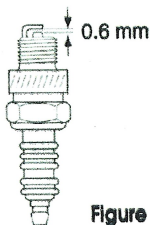

Figure 3
- 2) Remove and inspect spark plug. Replace the spark plug once a year. The spark plug should always be replaced if the electrodes fig.3 are pitted/burned or if the porcelain is cracked.
- 3) If reusing, scrape the carbon off, check and regap the plug if necessary to 0.6mm (0.024") see fig.3